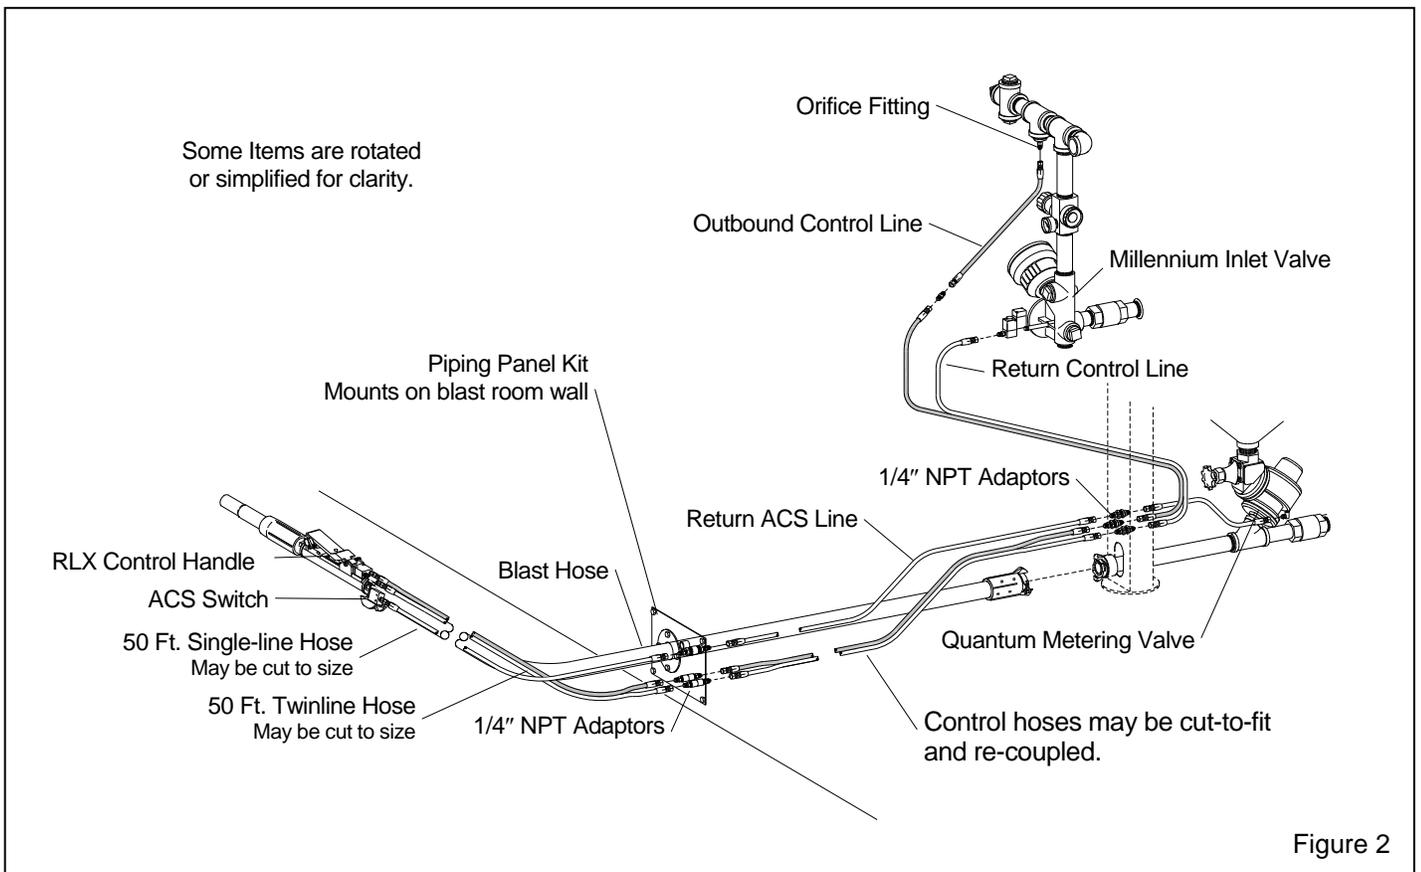

Figure 2
1.1.1 These instructions cover the set-up, operation, maintenance, troubleshooting, and replacement parts for the Clemco industrial blast machine. Components of the standard blast machine are shown in Figure 1. Some accessories may vary slightly when the machine is provided on a project (custom equipment built to user specifications). Figure 2 shows the remote-control air circuit. Refer to the blast machine drawings supplied with the project manual for specific plumbing information for blast machine and remote controls.
1.3.3.3 Remote controls operate pneumatically on the return-air principle (Refer to Figure 2). A stream of air travels from the orifice fitting, down the outbound twinline (shown shaded in Figure 2) and escapes through an opening located under the control handle lever. As long as air escapes through the opening, the remote control system remains inactive. When the lever is pressed, the opening is sealed, and air from the outbound line returns through the return line to open the Millennium inlet valve, and close the outlet valve. This pressurizes the blast machine and begins the blasting. Releasing the handle exhausts the control air, which closes the inlet valve, and opens the outlet valve to depressurize the machine and stops the blasting.
2.1.1 Push the nozzle holder end of the blast hose through the piping panel, as shown in Figure 2.
2.1.4 Attach the interconnecting twinline hose to the Millennium valve and 1/4" NPT adaptors on the piping panel. Either side of the hose can be attached to either fitting. Ref. Figure 2.
2.1.5 Attach the single interconnecting hose from the upper fitting on the piping panel, and the Quantum metering valve. Ref. Figure 2.